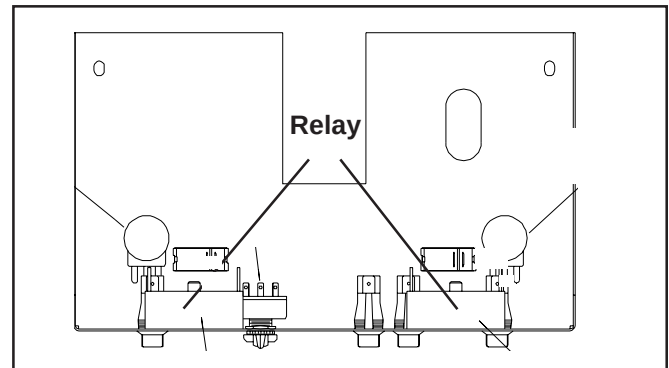

Fig. 12 - Time Delay Relay
2. Remove the hex head nut and star washer, then slide off from weld stud (Fig.12).